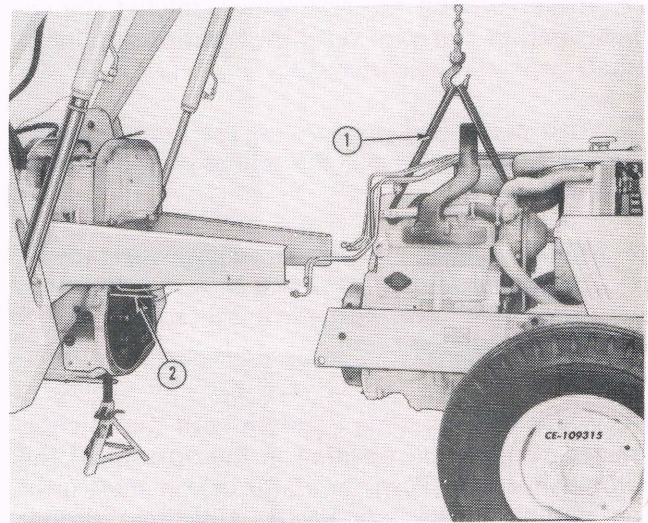

Fig. 9
19. Support the front of the tractor with a hoist and sling PLT-120-1 as shown in Fig. 9.
20. Remove two cap screws securing the engine to the clutch housing and install two dowels PLT-700-1 as shown in Fig. 9.